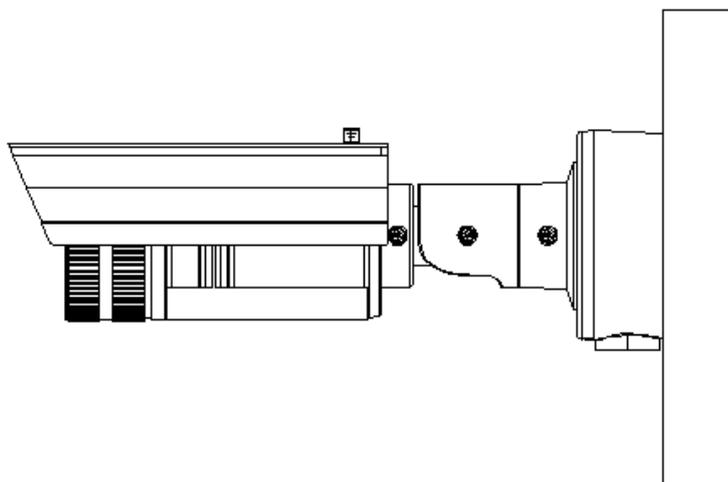

Fig 3.3.6
Step 5: The last step, fix the lens and front cover as shown in Figure 3.3.6.